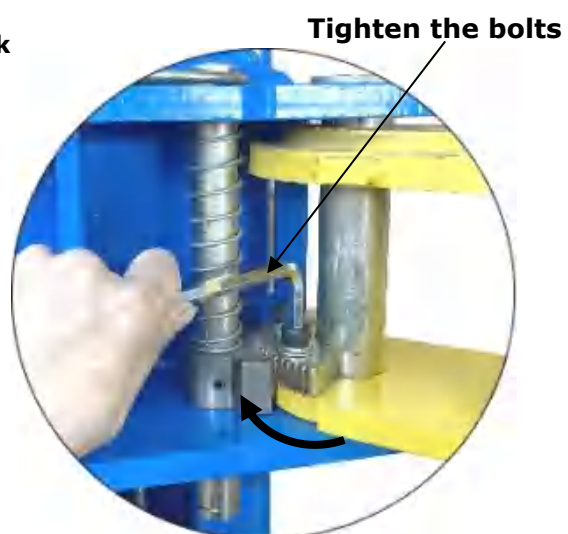

Fig. 40
4. Adjust moon gear and arm lock to make it to be meshed, then tighten the socket bolts of arm lock (**See Fig.40**).